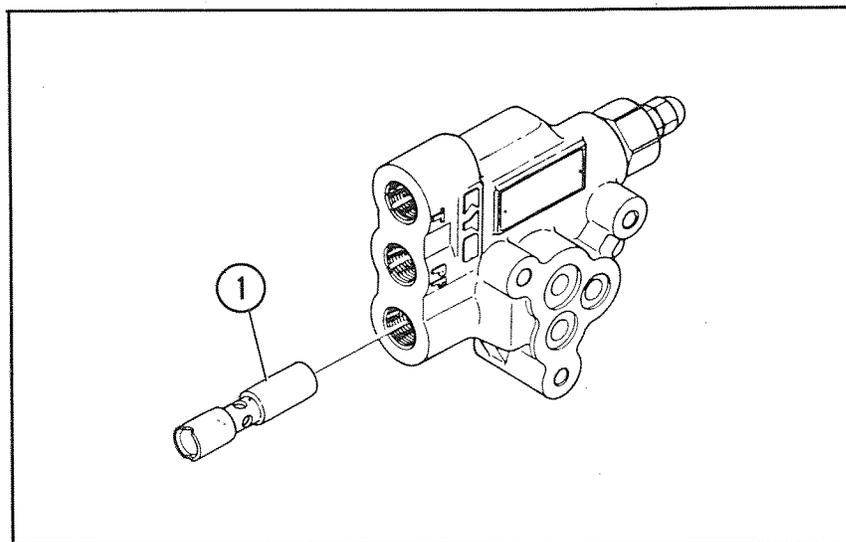

Figure 20
3. Depress the plunger (1), (Figure 20) and pull out the plunger core while rotating it.